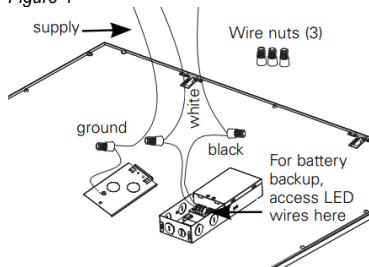

Figure 5
7. Using the open knockout bring in supply line. Use included wire nuts (B) to attach the ground wire to the ground supply wire, the black (line) wire to the black supply wire, and the white (neutral) wire to the white supply (Fig. 5) (neutral) wire to the white supply.